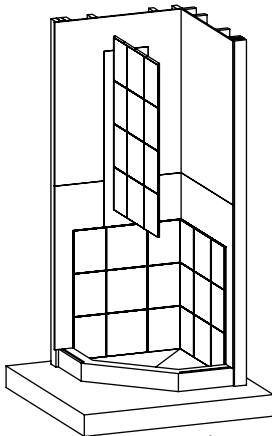

figure 21
5. Continue to install the top panels starting with panel 1T (fig. 21). Place the top panel above the bottom panel and match the space between the panels with the rest of the grout lines on the panel, use spacers if necessary.